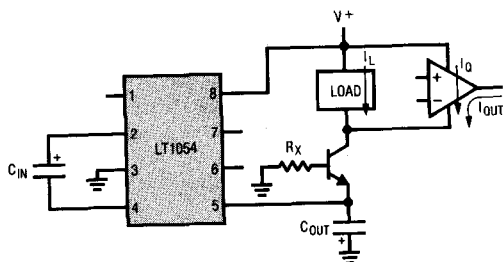

Figure 3
V_{OUT} (Pin 5): In addition to being the output pin, the pin is also tied to the substrate of the device. **Special care must be taken in LT1054 circuits to avoid pulling this pin positive with respect to any of the other pins.** Pulling Pin 5 positive with respect to Pin 3 (GND) will forward bias the substrate diode which will prevent the device from starting. This condition can occur when the output load driven by the LT1054 is referred to its positive supply, (or to some other positive voltage). Note that most op amps present just such a load, since their supply currents flow from their V⁺ terminals to their V⁻ terminals. To prevent start-up problems with this type of load, an external transistor must be added as shown in Figure 3. This will prevent V_{OUT}
*SEE FIGURE 3